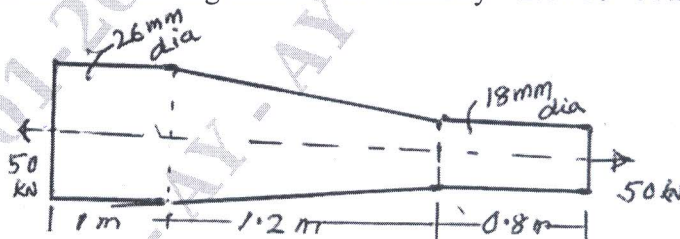

Fig. Q2 (b)
- b. Find the total elongation of the bar shown in Fig. Q2 (b) subjected to an axial tensile force of 50 kN on the bar of material having modulus of elasticity $= 2.1 \times 10^5 \text{ N/mm}^2$. (04 Marks)